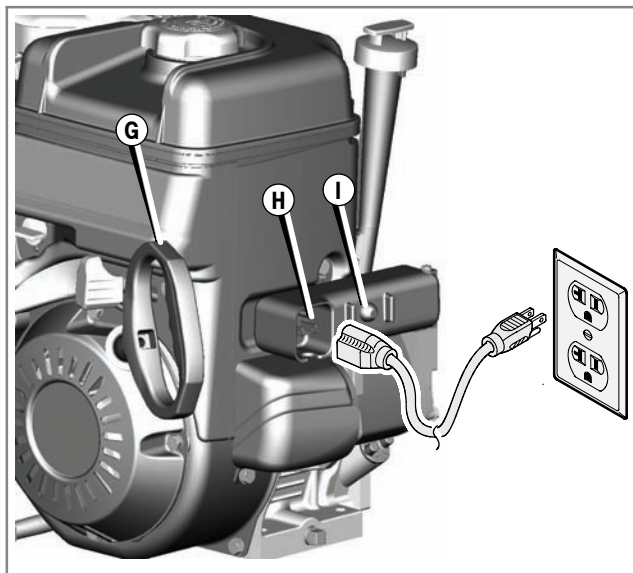

Figure 8
- Electric Start:** First connect the extension cord to the power cord receptacle (H, Figure 8) and then into a wall receptacle. If an additional extension cord is required, make sure it is a 3-wire.